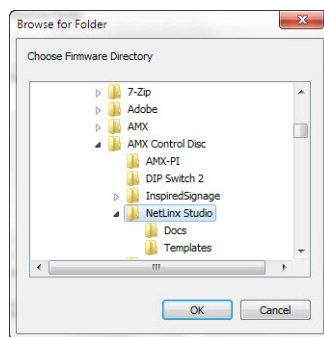

FIG. 22 Browse for Folder window
4. Select the appropriate Kit file from within the *Browse for Folder* window (FIG. 22).